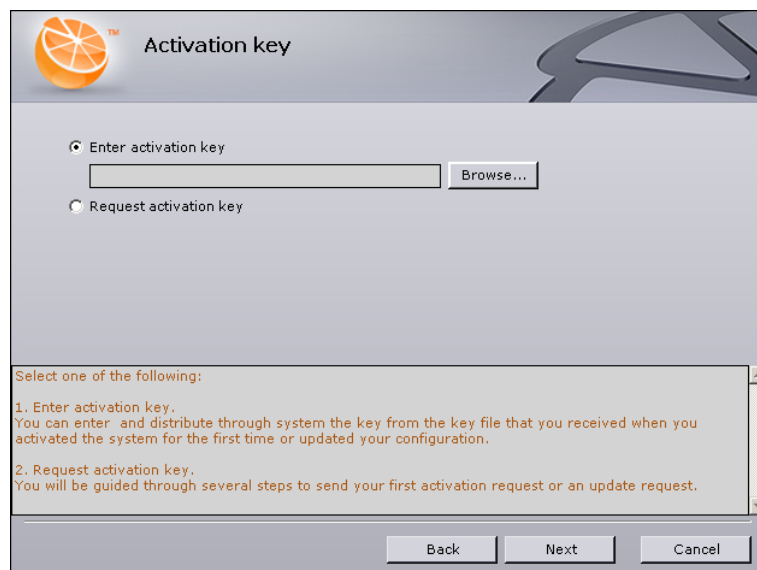

Fig. 4.6—8 Entering the activation key
9. The **Activation key** dialog box will appear (Fig. 4.6—8). Here you should load the Smart Start activation key you have received from the file for distribution in the system. To do this, select **Enter activation key** and click **Browse** to search for the corresponding file.